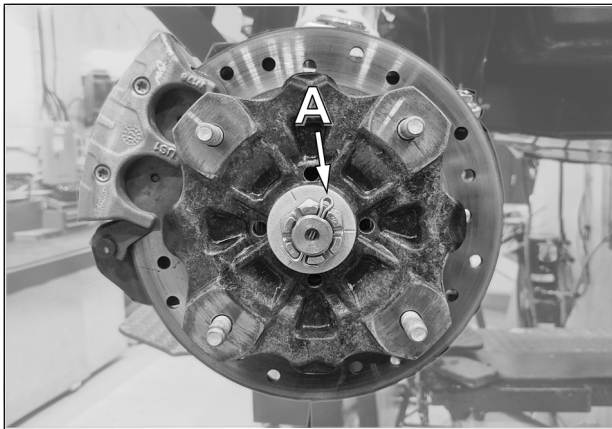

Fig. 17
- Make sure that the cotter pin locking the wheel hub's castle nut (**A**) will not interfere with the Track System hub during installation. There must not be any resistance when the Track System is installed on the vehicle's wheel hub. See Fig. 17